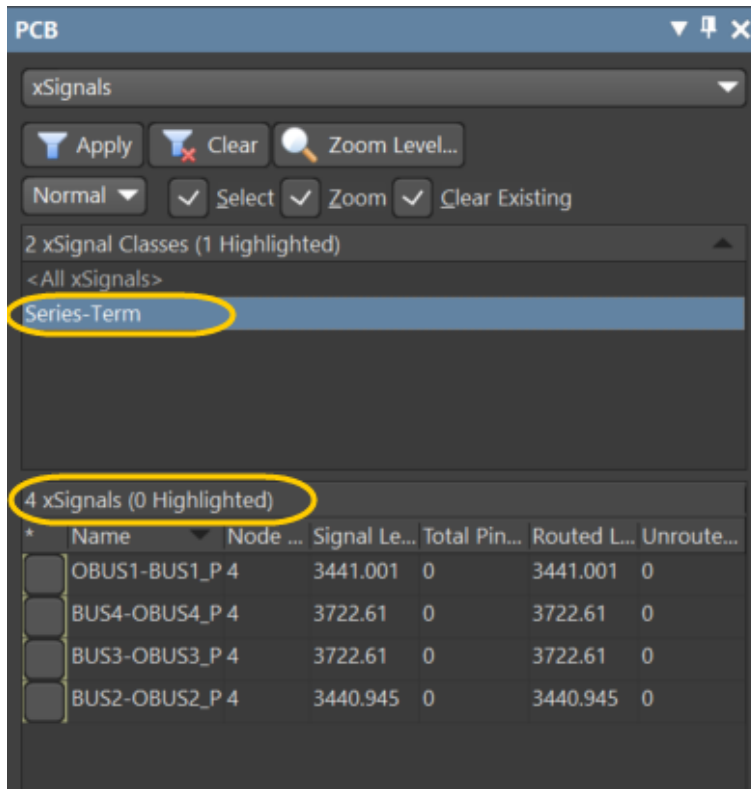

Figure 9. New *xSignals* Class with *BUS* nets
14. In the *PCB* panel, you will now see the *xSignal Class* *Series-Term*, with the 4 nets that we assigned as members. This is shown in Figure 9.